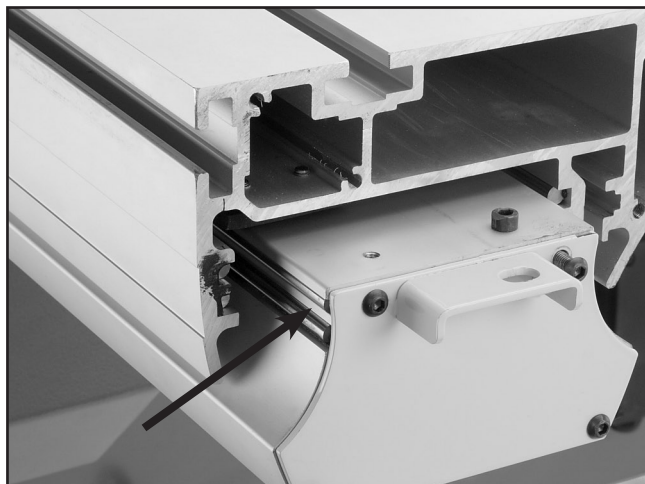

Figure 88. Sliding table ways.
2. **Sliding table ways.** Spray or wipe on a light machine oil such as WD-40® the entire length of the steel rods (see **Figure 88**).